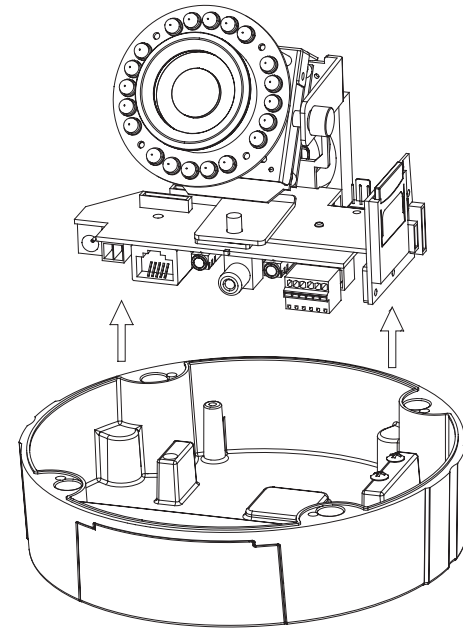

Figure 1.3
4. Lift the camera bracket up and off from the camera base. (Figure 1.3)